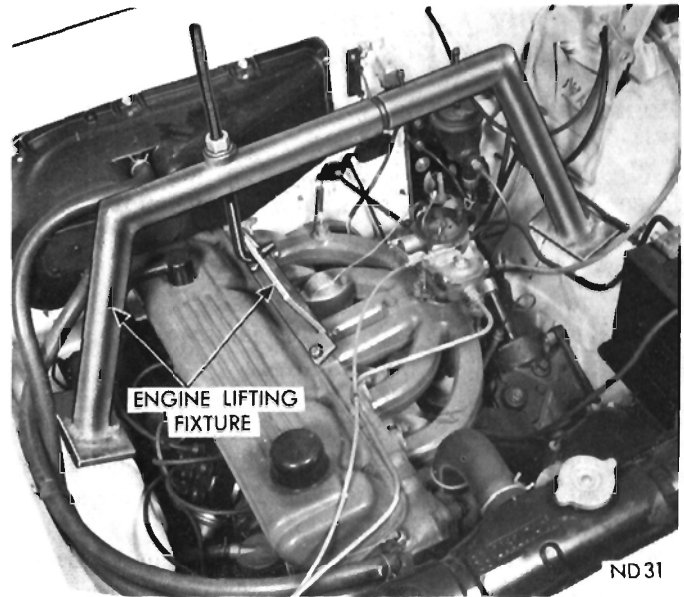

Fig. 38—Engine Lifting Fixture (6 Cyl. Engine)
(11) Disconnect throttle rod from throttle lever on the transmission.
(12) Disconnect oil cooler lines at transmission and remove oil filler tube. Disconnect the speedometer cable.
(13) Disconnect propeller shaft at rear universal joint. Carefully pull shaft assembly out of the extension housing.
(14) Remove rear mount to extension housing bolts.
(15) Install engine support fixture, Tool C-3487 (8 cyl. engine) or Tool C-3809 (6 cyl. engine) and raise the engine slightly (Fig. 38 or 39).
(16) Remove crossmember attaching bolts and remove the crossmember.
(17) Place a transmission service jack under